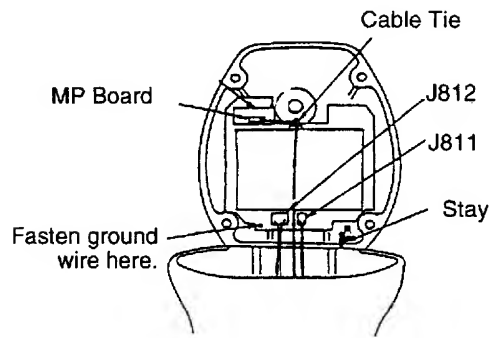

Figure 5-7 Scanner unit, cover opened
- 4) Open the scanner housing cover and fix the stay as shown in Figure 5-7.
- 5) One end of the cable with 15-, 9- and 7-way plugs has already been connected to the RTB Board inside the scanner housing. Mate the 15- and 9-way plugs with jacks J812 and J811 on the transceiver module, respectively. Connect the 7-way plug to jack J701 on the MP Board. Secure the cable between the RTB Board and J701 with the cable tie as shown in Figure 5-7.
- 6) The black wire of the cable is the ground wire. Fasten it to the chassis of the transceiver module with the ground screw shown in Figure 5-7.